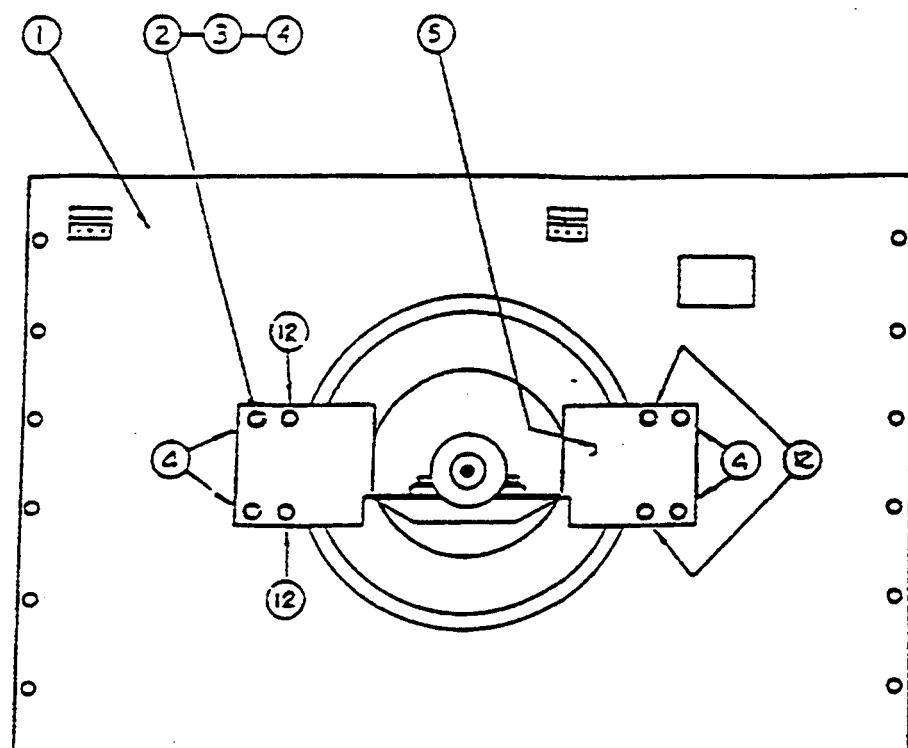

Figure 83
6. When installing the drive bracket (Item 5) insert one 3/8 flat washer (Item 4) at the four outer holes and one 3/8 special flat washer (Item 12) at the 4 inner holes between the bracket and back wall at the mounting locations (See Figure 83). Use eight (8) 3/8 - 16 X 1 screws (Item 2) and assemble a 3/8 lockwasher (Item 3) and a 3/8 flat washer (Item 4) into each screw. Insert a screw at all 8 locations. Hand tighten only at this time.